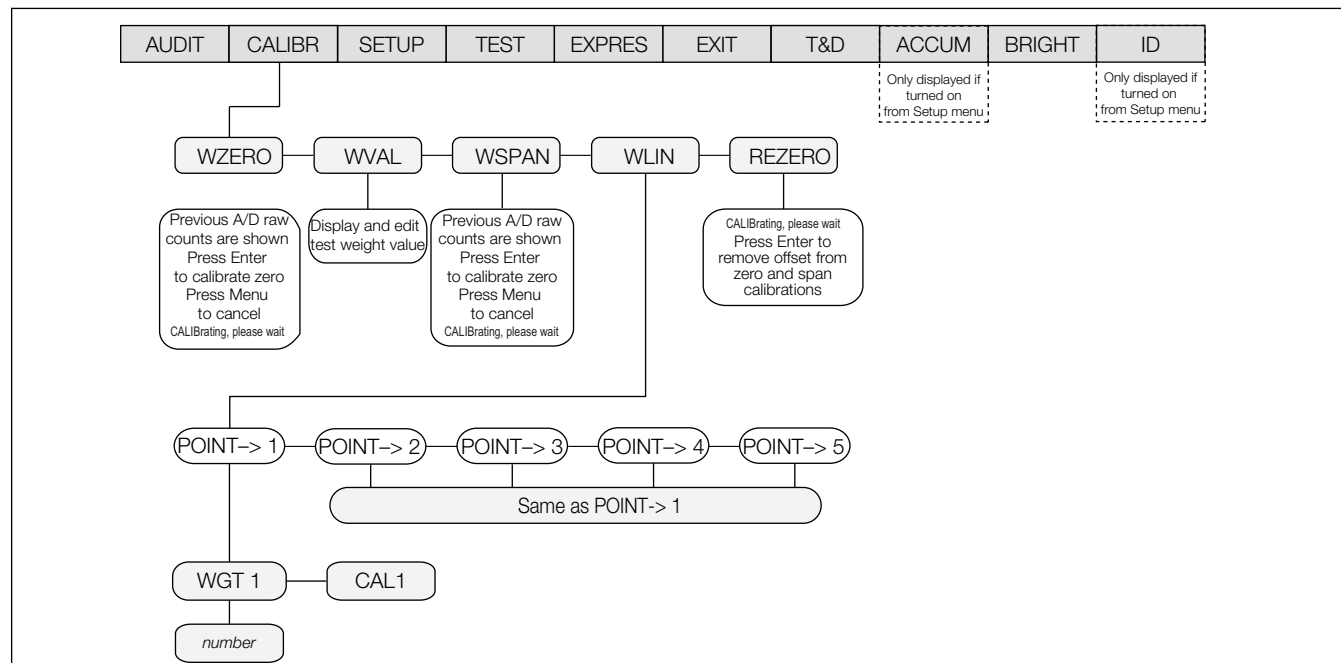

Figure 4-1. Calibration Menu
- CALIBR menu shown in Figure 4-1, quick access calibration